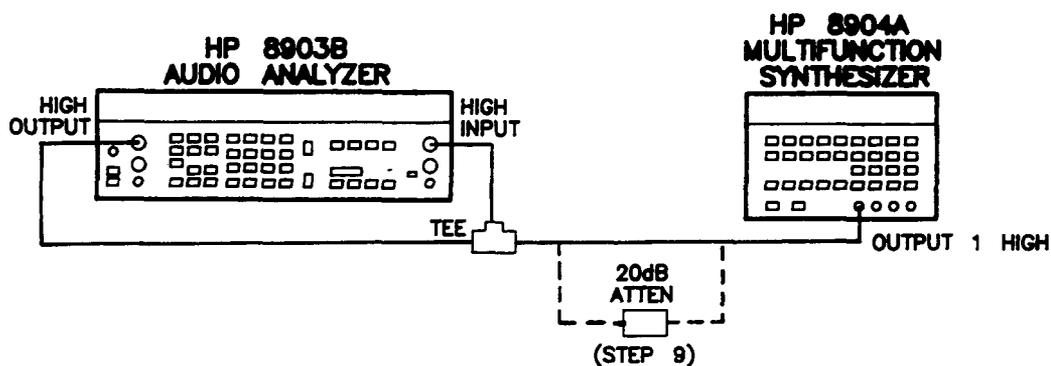

Figure 4-1. Distortion, SINAD, and Signal-to-Noise Accuracy Test Setup
1. Connect the equipment as shown in Figure 4-1.